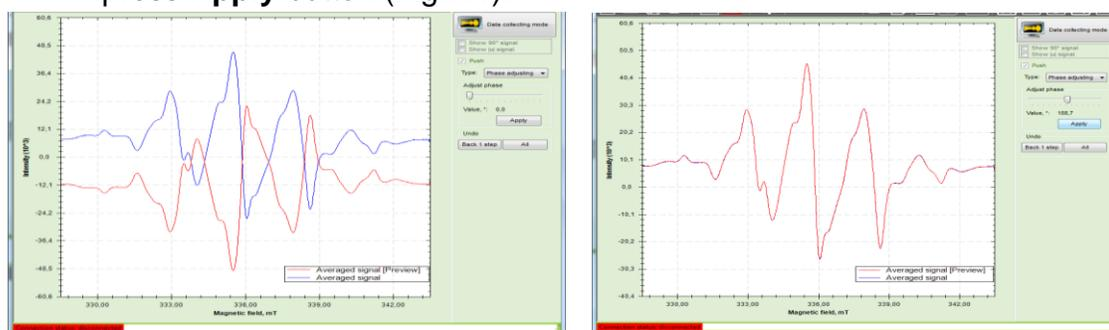

Figure 7.1 – Spectrum Before and After the 180° Phase Adjustment
- press **Apply** button (Fig.7.1).